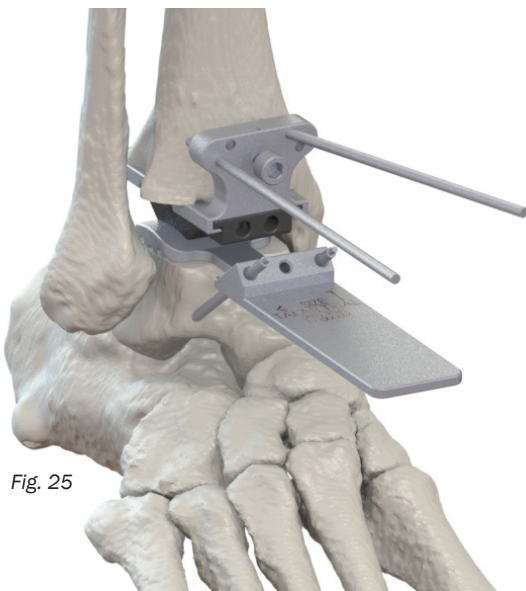

Fig. 25
2.8 Insert two K-Wires into the tibial trial. First into the straight hole on the medial side, then into the converging hole on the lateral side (Fig. 25).